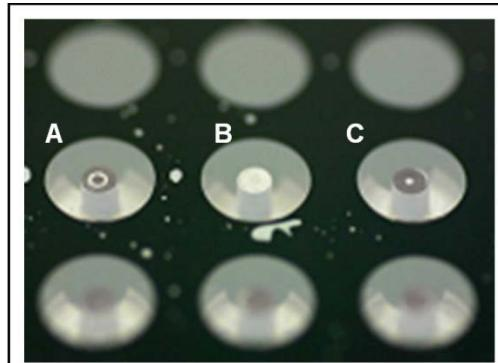

Figure 2. Stoppers that are
2. Visually inspect the underside of the populated 96-well plate to ensure that the Cell Seeding Stoppers are firmly sealed against the bottom of the plate. To inspect the stoppers, turn the plate over and examine the stoppers for sealing (see **Figure 2**). If incomplete sealing is observed, return the plate to the upright position and use a sterile instrument to gently push the stopper back into the well until sealing is observed.